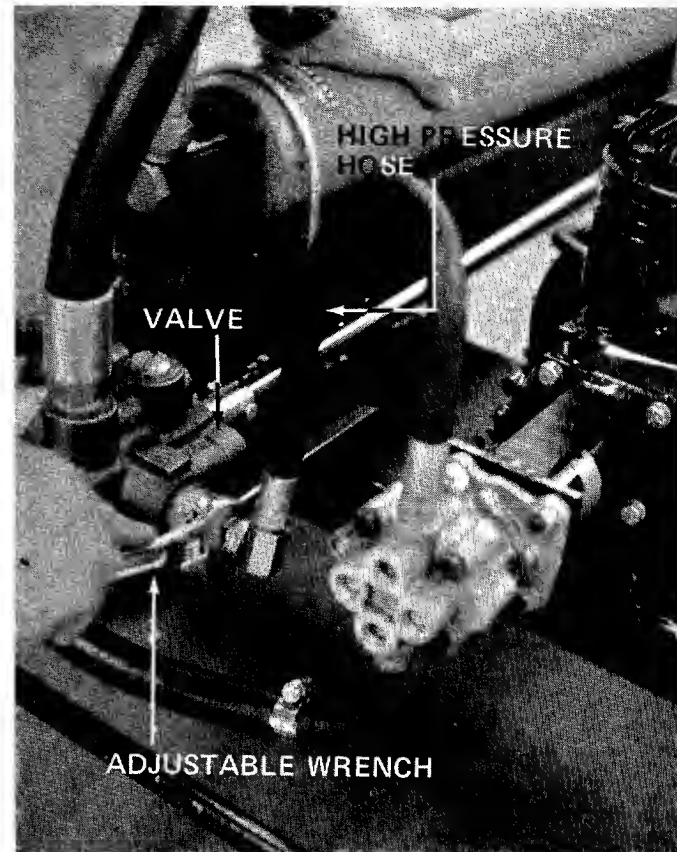

FIGURE 13
15. Assemble other end of high pressure hose to valve. See figure 13. An adjustable wrench is required.